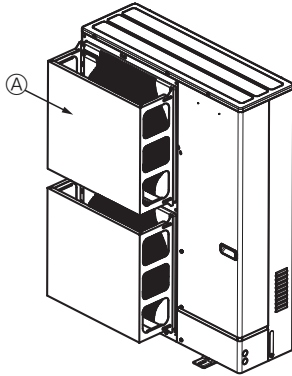

Fig. 1-4
- ② Install an optional air protect guide if the unit is installed in a location where strong winds from a typhoon, etc. may directly enter the air outlet. (Fig. 1-4)